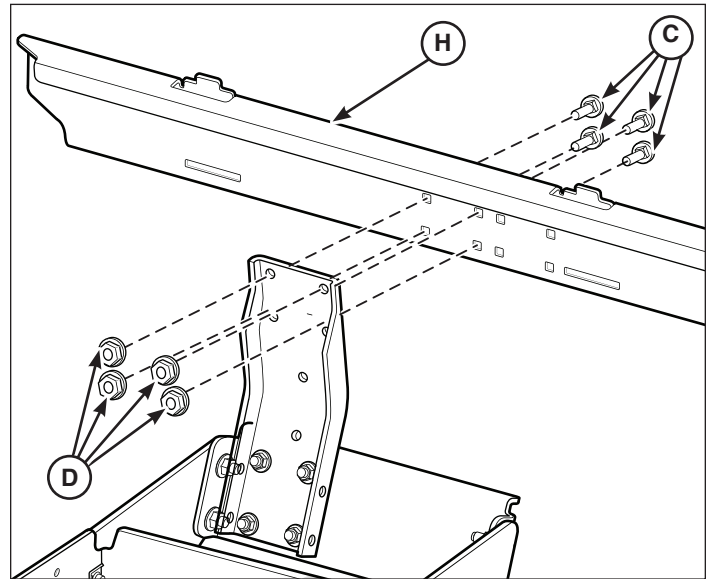

Figure 3
1. Position the holes in the bag and cover support (**H**, Figure 3) with the holes of the rear support frame. Install the bolts (**C**) and the locknuts (**D**).